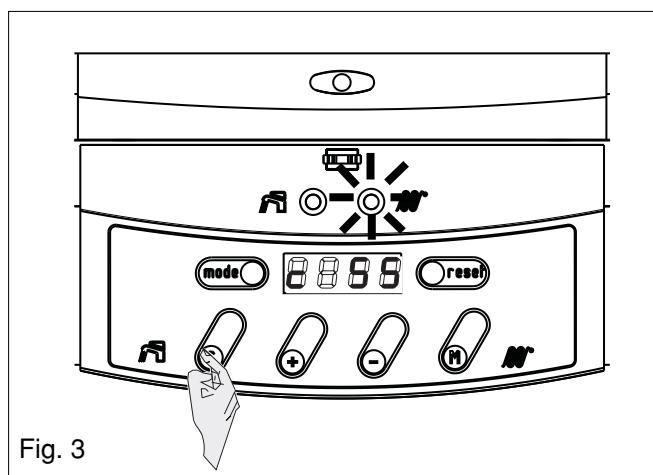

Fig. 3
To switch the hot water mode ON or OFF, press and hold the  button (fig. 3) whilst looking at the digital display:
- the hot water LED will now flash and the operating temperature will be shown on the right side of the display (see fig. 3);